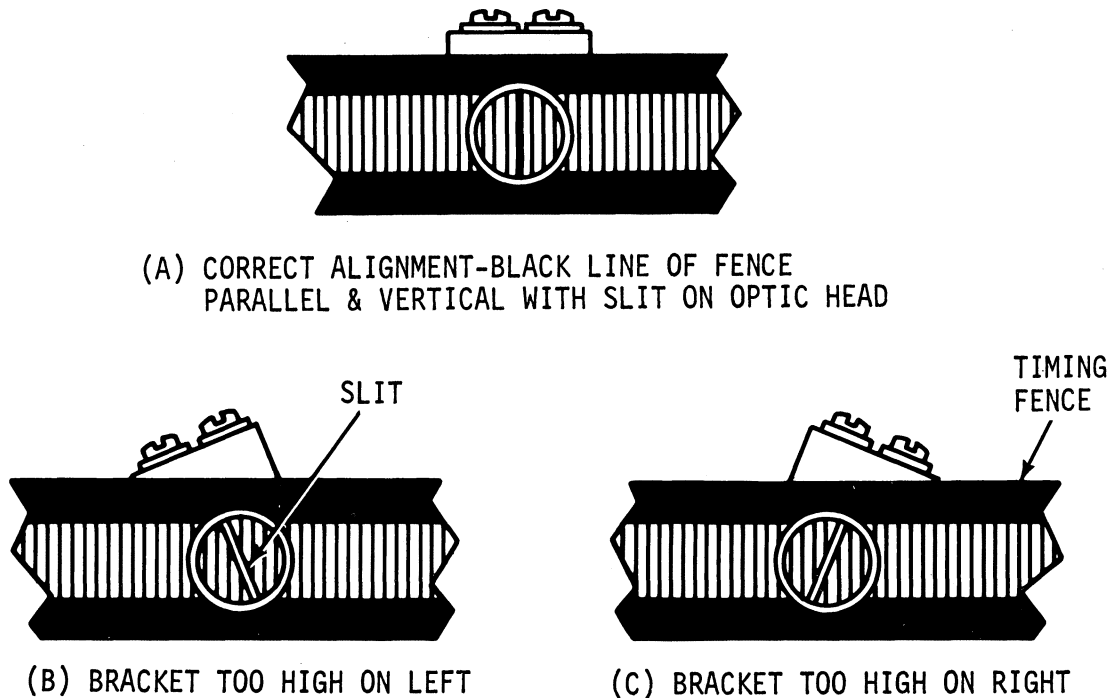

Figure 5-11. FIBRE OPTICS HEAD ALIGNMENT AND FLEXIBLE TIMING FENCE
5. From a position in front of optic timing fence (B-36) and with fibre optic bundle (B-31) pointing to a light source, correctly align illuminated slit (B-40) on optics head (B-31) by observing through empty light housing (B-32) so that light slit on optics head is completely blocked by any black line on the timing fence. (Figure 5-11 (A)).
6. The following two conditions may apply to light alignment in previous step 5 when the slit on optics bundle is out of alignment with respect to the black line on timing fence (Figure 5-11 (B) and (C)).
- a. If the bracket (B-26) holding the optics head is too high on left (Figure 5-2 (B)), tap bracket to align slit and black line (Figure 5-11 (A)).
- b. If the bracket holding the optics bundle is too high on the right (Figure 5-11 (C)), tap bracket to align slit and black line (Figure 5-11 (A)).
7. Insert lamp (B-41) into socket (B-42) attached to lamp retainer (part of lamp socket), but note that prior to insertion into lamp ass'y be certain lamp filament (inside lamp B-41) is in a vertical plane paralleling slit (B-40) in the opposing fibre optics head (B-31) for maximum blockage of light by black line on fence (Figure 5-11(A)). Insert and tighten screw (B-37), washers (B-38, 44) into lamp retainer (B-42) and lamp ass'y (B-32).